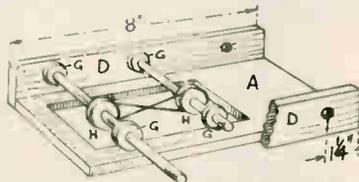

Fig. 4—An under view showing pulley drive
The two side rails (D) of the floor are next marked and cut. These measure 8 ins. by 1½ ins., and are glued and pinned to the edges of the floor, see Fig. 4. There are three axle holes in each piece, one hole in the middle of its length and one towards each end at 1½ ins. from the end as Fig. 4 shows.
½ in. thick and make a very substantial bearing for the toy. The outer faces of the wheels come flush with the ends of the axles, but on the latter will be threaded, during the building up, the washers (G), Fig. 4, which will keep the wheels evenly and properly spaced.
The centre axle will also have similar washers (G) put over it. The washers, of course, are placed so they come on the inside of the rails (D), see Fig. 4. The pulleys (H) are 1½ ins. in diameter, are made from the ¼ in. wood and grooved deeply with either a rat-tail or three-sided file. The former, it will be found, makes the better and more suitable groove. Glue on the pulleys as shown in position in Fig. 4, and later connect up with the belt shown.